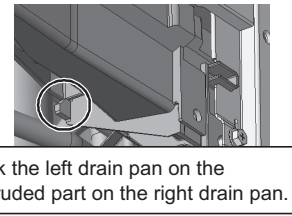

Figure 8
- (2) Screw down the left drain pan with two screws. (See Figure 8.)